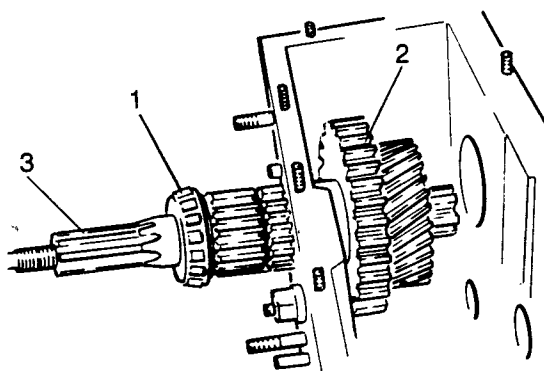

Fig H2.25
- (1) Refer to Fig H2.25. Fit the conical roller bearing (1) to the rear of the shaft.
- (2) Position the high and low gears (2).
- (3) Introduce the shaft (3) through the rear of the casing and fit the high and low gears at the same time.